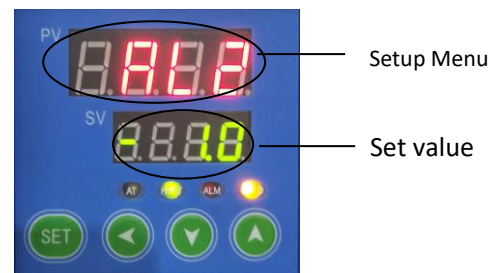

Figure 7
6.2 (See figure 7) When the temperature reaches: $PV = SV + F_n$,